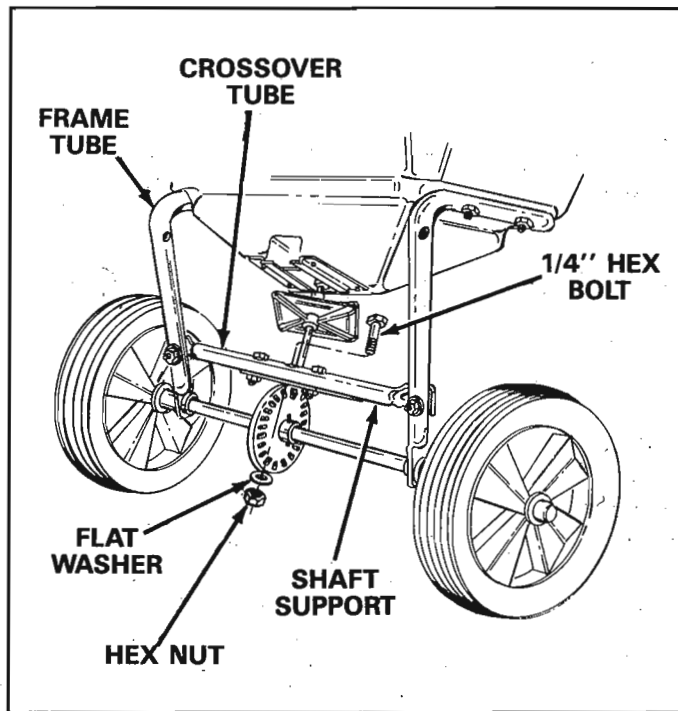

FIGURE 7
- Remove the 1/4" hex bolt, flat washer and hex lock nut from the center of the crossover tube. See figure 7.
- Place the handle tube (long) on the crossover tube, align the holes in hitch tube, crossover tube and shaft support, assemble with 1/4" hex bolt, flat washer and hex nut, removed in step 8. See figures 7 and 8. **MAKE ONLY FINGER TIGHT AT THIS TIME.**